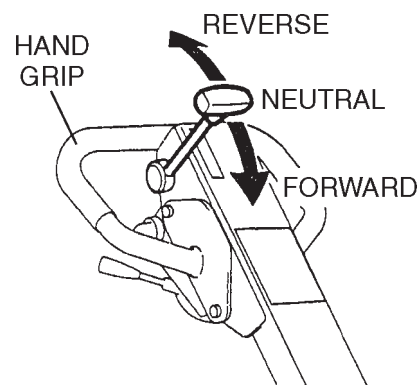

Figure 15. Direction Lever
3. To make the compactor move in the forward direction push the travel lever (Figure 15) forward.
- To make the compactor move in the reverse direction pull the travel lever (Figure 15) backwards.